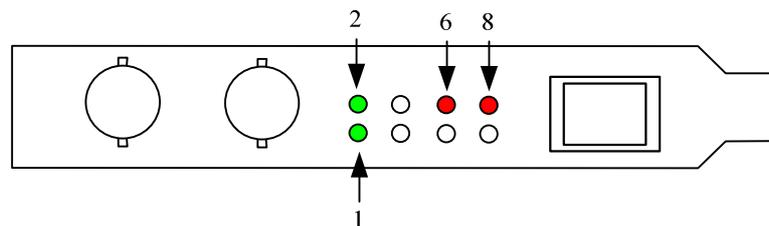

Figure 3-2. Correct LED State for DAG 3.6D Card Without Input Signal.
**Figure** Figure 3-2 shows the correct LED state for the DAG 3.6D card without input signal.